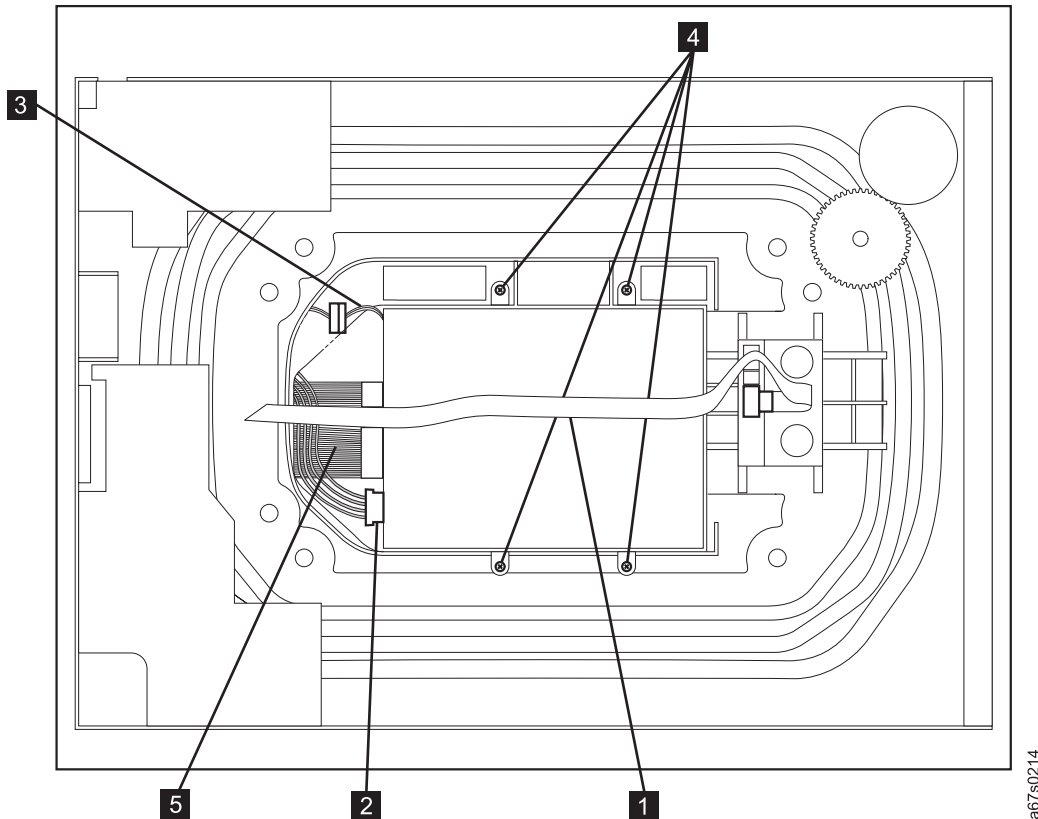

Figure 6. Internal view of drive in the Autoloader
- a. Remove the four screws securing the drive ( **4** in Figure 6).
- b. Unplug the SCSI cable ( **5** in Figure 6).
- c. Unplug the power cable ( **2** in Figure 6).
- d. Unplug the RS-422 cable ( **3** in Figure 6). Use a flat blade screw driver to separate the two parts of the connector.